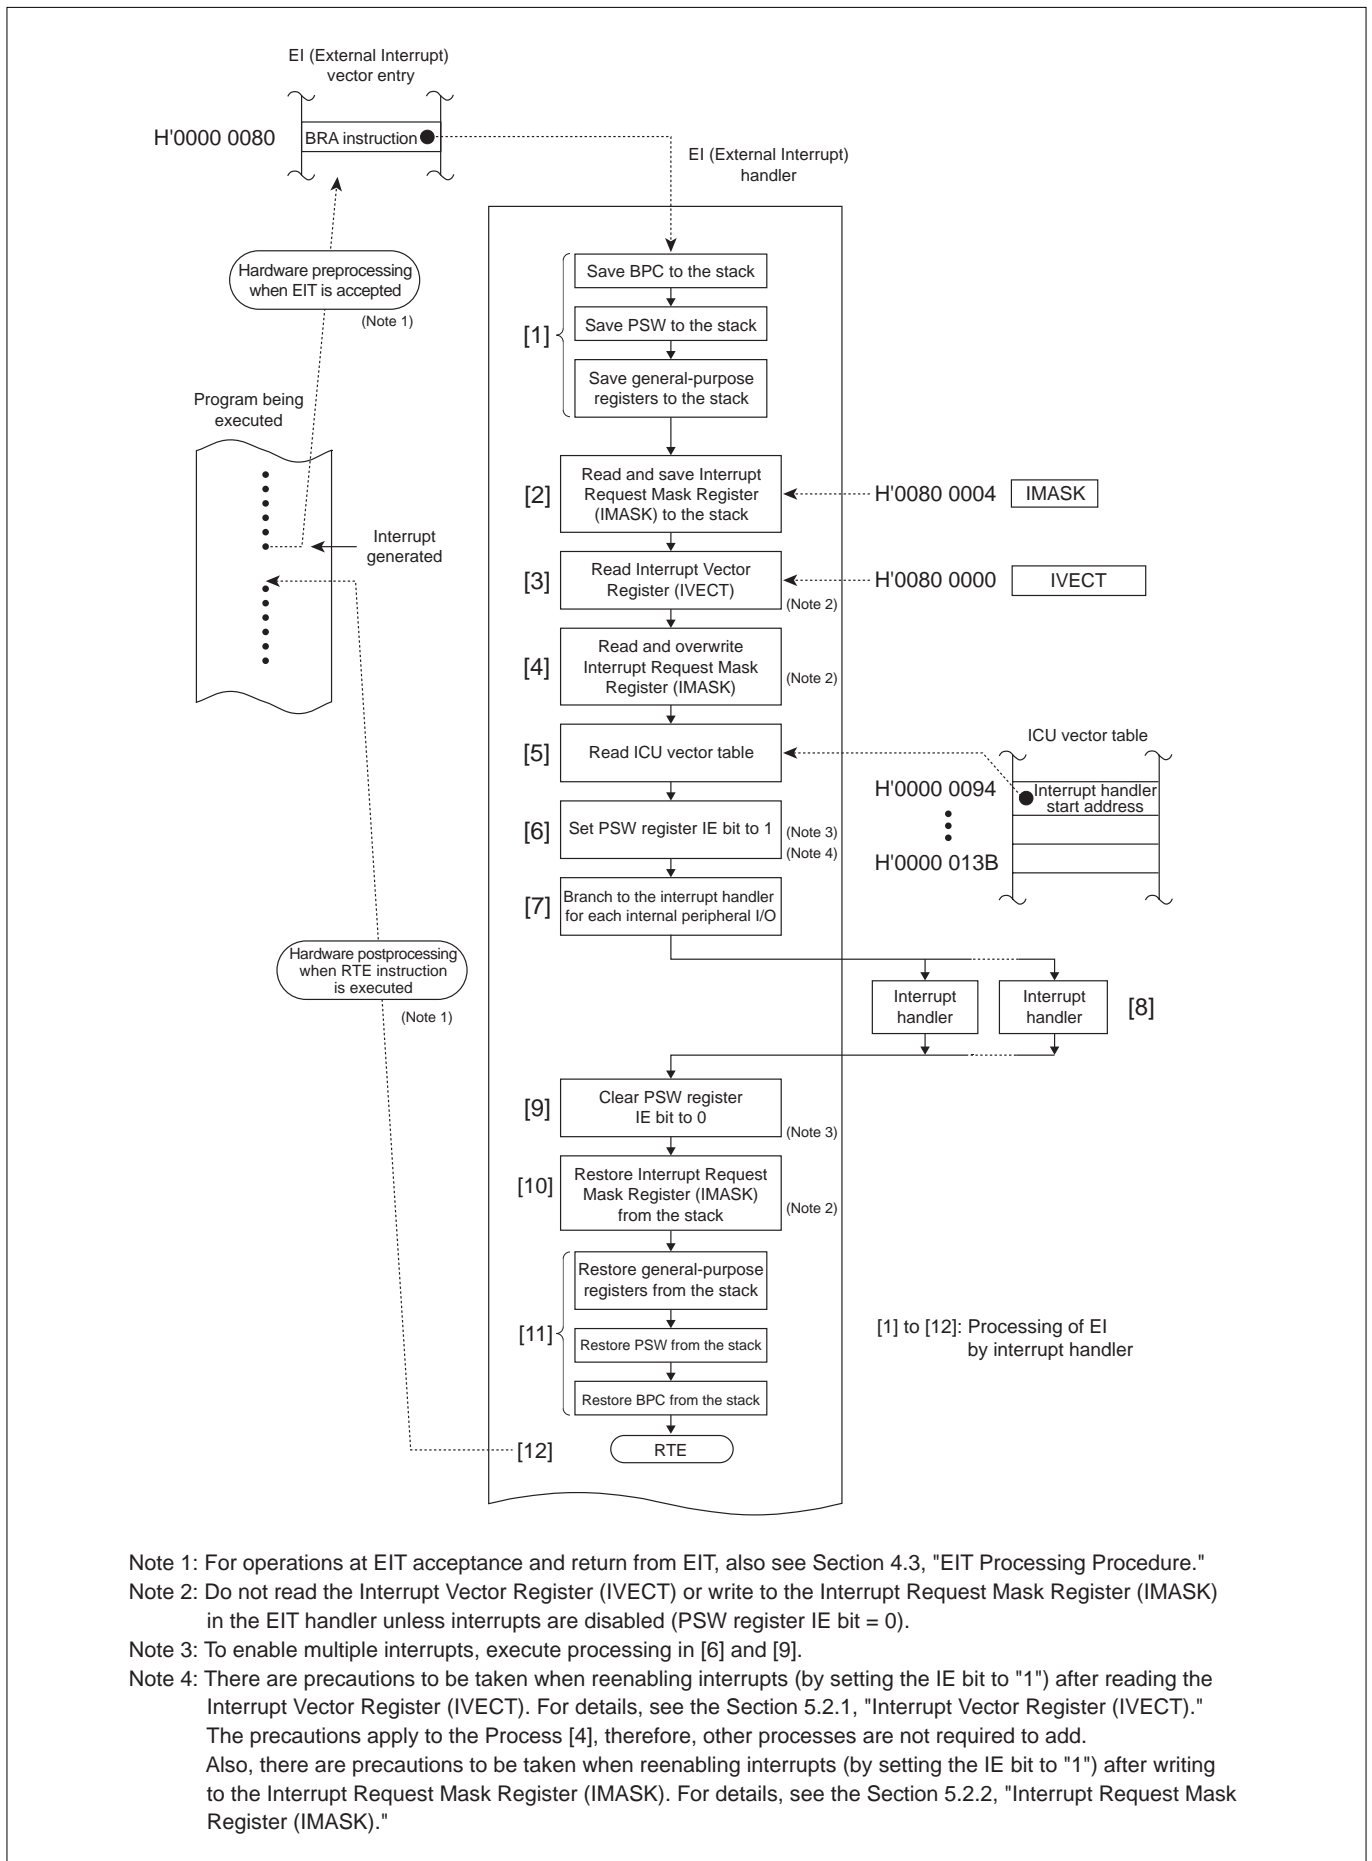

Figure 5.5.2 Typical Handler Operation for Interrupts from Internal Peripheral I/O
(2) Processing in the External Interrupt (EI) handler
A typical operation of the External Interrupt (EI) handler (for interrupts from internal peripheral I/O) is shown in Figure 5.5.2.
- Before enabling multiple interrupts, read the Interrupt Vector Register (IVECT) and then the ICU vector table, as shown in Figure 5.5.2, "Typical Handler Operation for Interrupts from Internal Peripheral I/O."